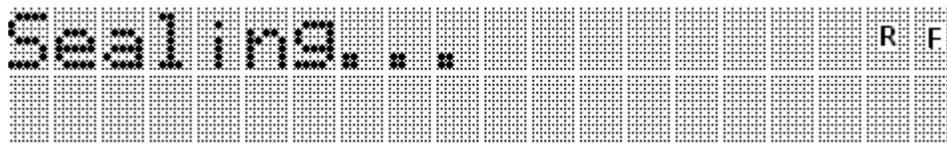

Figure 3.2 LCD screen, sealing state
- The LCD says “Sealing.” See Figure 3.2.